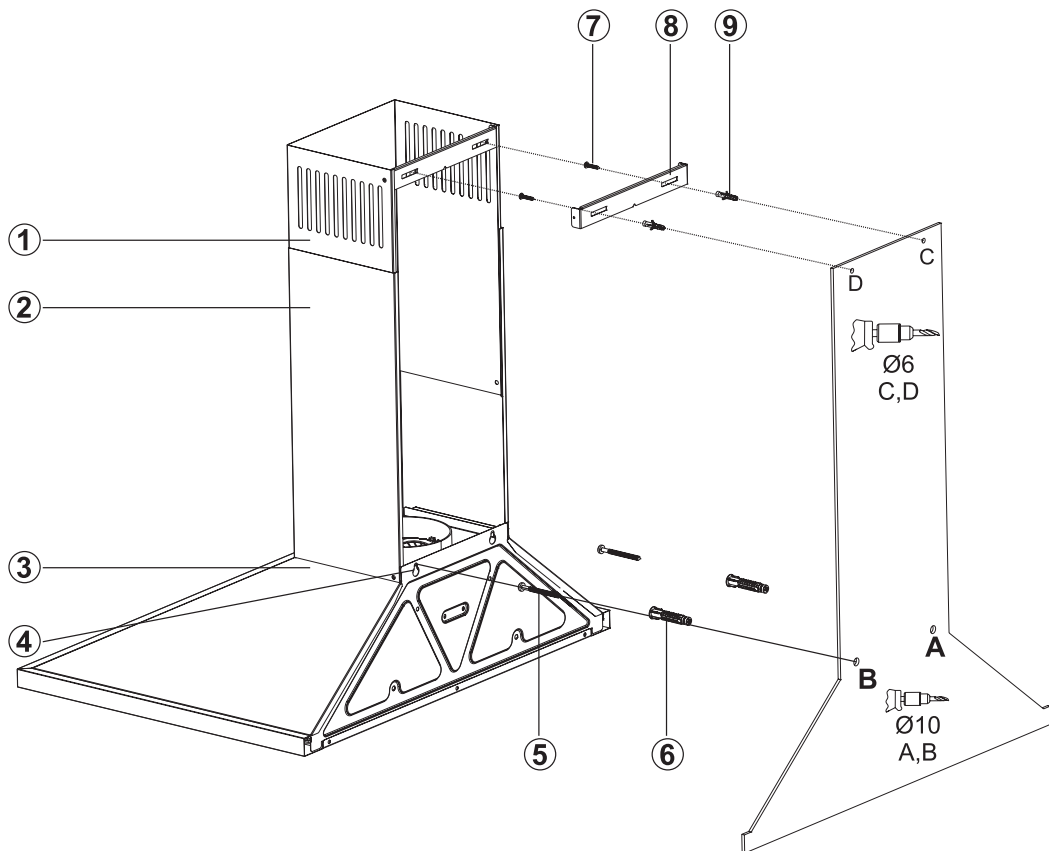

Figure 9: INSTALLATION AND COMPONENTS
- Check the minimum and the maximum distance from the worktop and the drilling holes A, B and C (Figure 9).
- Place x10 mm plastic dowels into drilled holes A and B and secure the screws to A + B points leaving a 5-mm distance between the screw top and the wall (Figure 9).